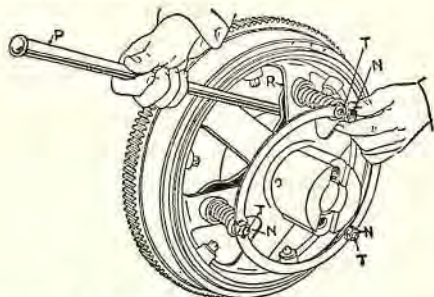

Fig. 12. Replacing clutch springs.
In replacing the clutch, the springs (S) can be compressed sufficiently to start the retaining nuts (N), if a pry bar (P) is held back of the clutch spider (R) pressing the studs out (Fig. 12). Be careful to get an even tension on the main clutch springs, which will be reasonably assured if the retaining nuts are screwed on to their respective studs (T) approximately the same distance. Do not fail to fasten the cap screws holding the spacer and universal joint nuts with cotter pins.